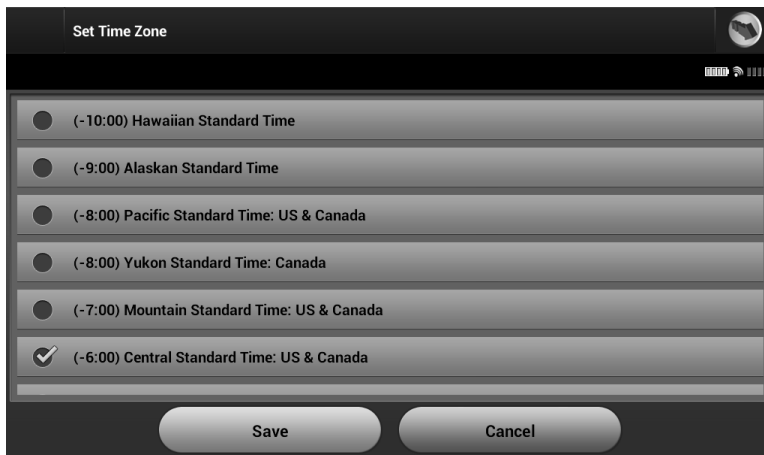

Figure 8: *Time Zone selection screen (scrollable list)*
1. Select Set Time Zone on the Programmer Settings screen. The time zone selection screen appears (Figure 8).